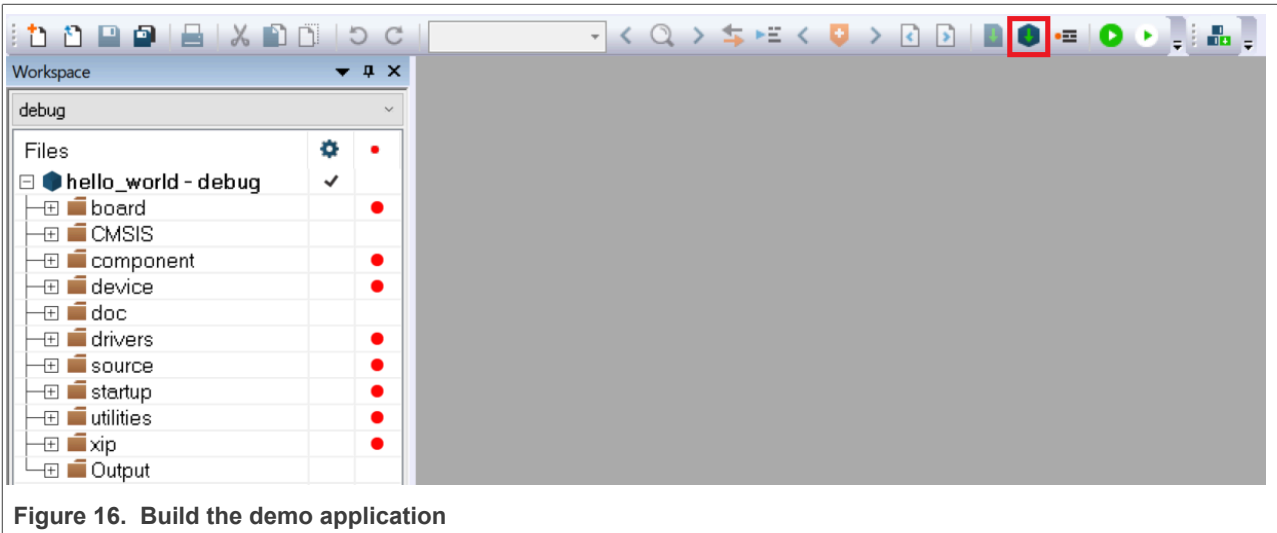

Figure 16. Build the demo application
3. To build the demo application, click **Make**, highlighted in red in Figure 16.